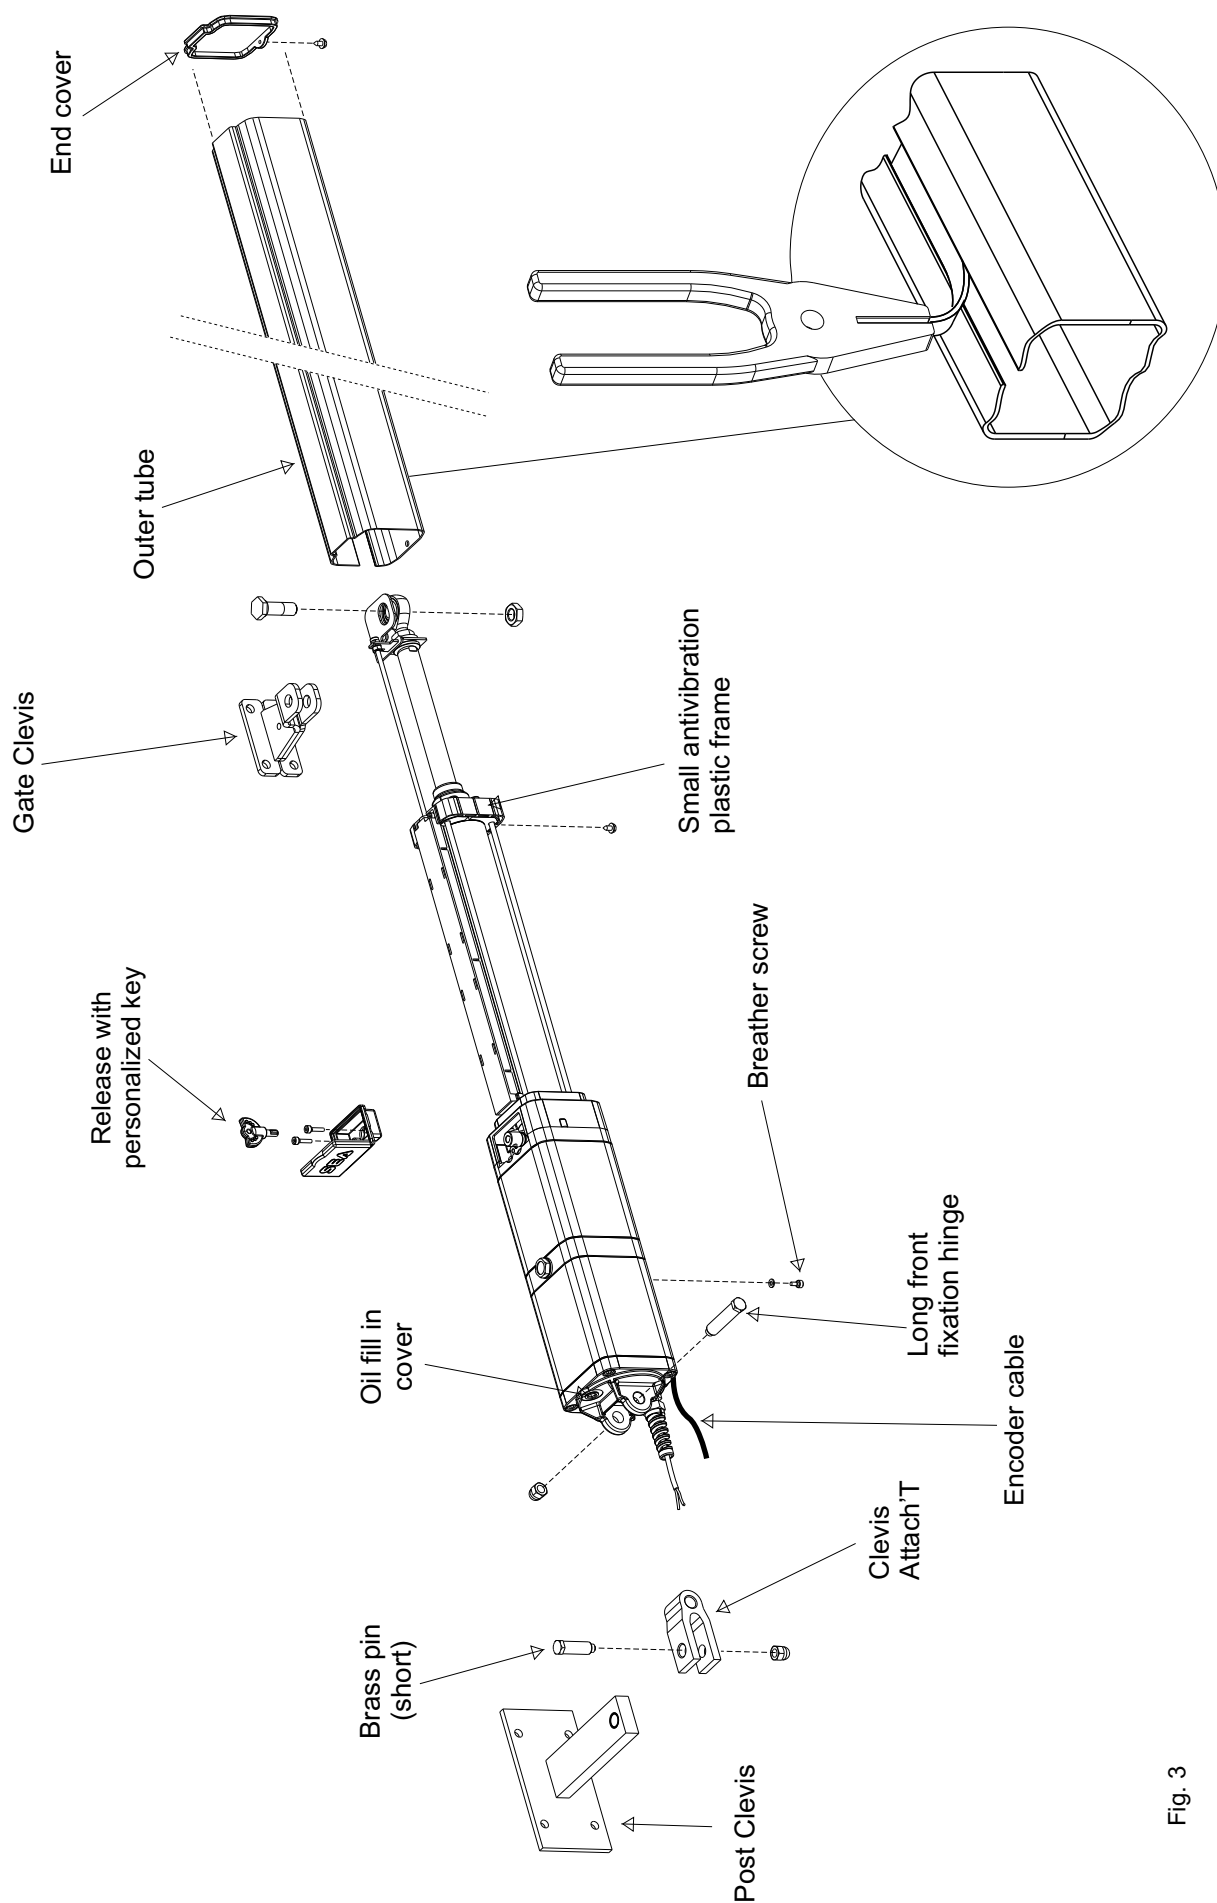

Fig. 3
- Open the package carefully, paying attention to not lose the parts reported in fig.3